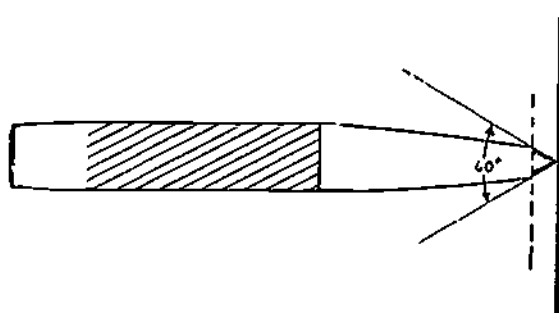

Figure 2-8. Prick Punch
**Prick Punch** The prick punch (Figure 2-8) is a commercially designed tool approximately 4" to 6" in length used mainly in layout or by template makers for precision work. The punch end is ground to a 30° to 60° point.